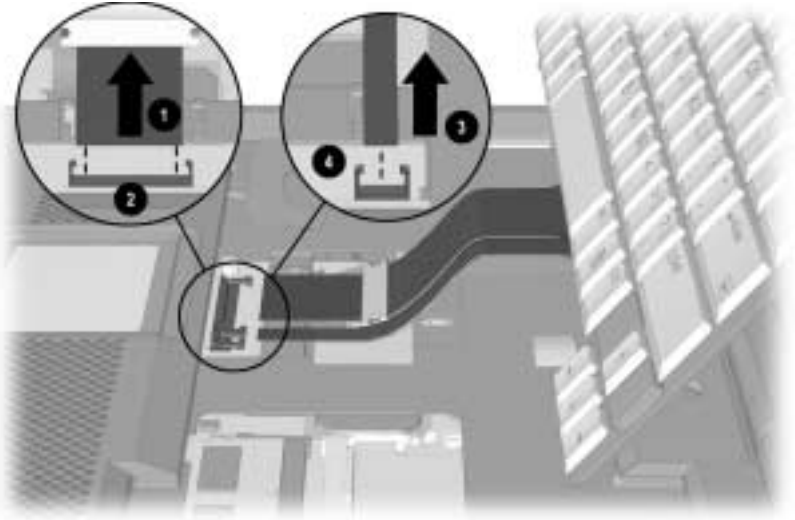

Figure 5-9. *Releasing and Disconnecting the Keyboard Cables*
8. Release the ZIF (Zero Insertion Force) connector that connects the keyboard cable **❶** (Figure 5-9).
9. Disconnect the keyboard cable from the system board **❷**.
10. (**Armada E500 only**) Release the ZIF connector that connects the pointing stick cable **❸**.
11. (**Armada E500 only**) Disconnect the pointing device cable from the system board **❹**.